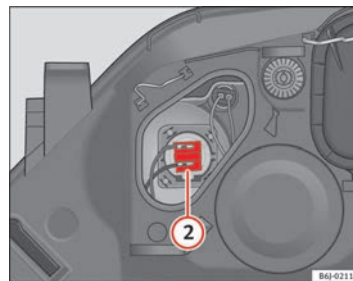

Fig. 141 Main beam headlights
- Remove connector ⇒ page 214, fig. 141 **2** by pulling outward.